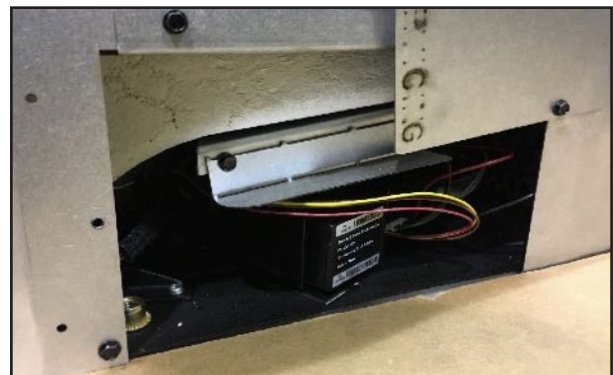

Figure 3.3 Access to Control Cavity
- Access to the control cavity (See Figure 3.3) will require the appliance to be pulled out from the chimney. This may require the removal of the decorative barrier front and surround.